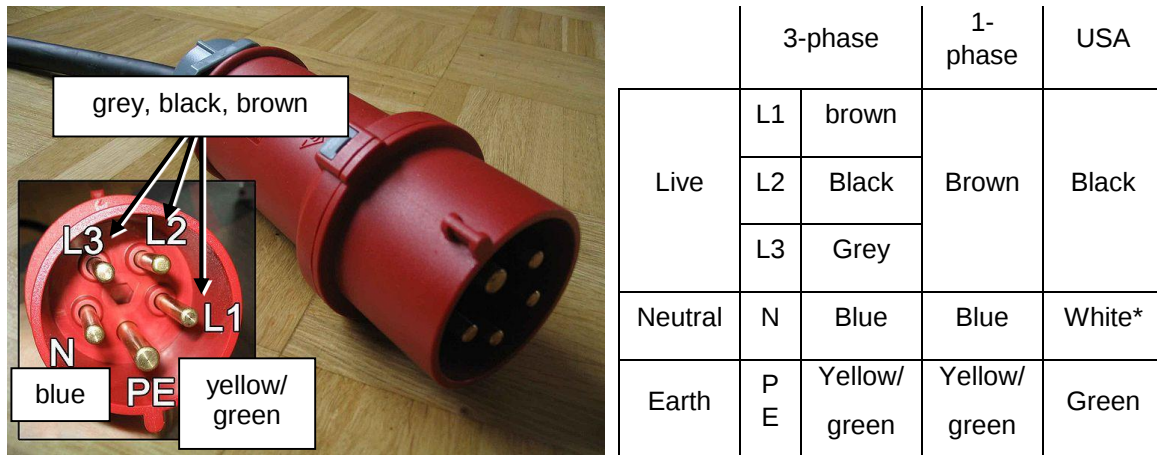

Figure 14. Shown here is the 3-phase plug (3P+N+E 16A 400V) used in Europe.
3. Attach the (thick) mains cable directly to a 230 VAC earthed power outlet (three phases or one phase, depending on model and type) or to a suitable plug (see Figure 14).